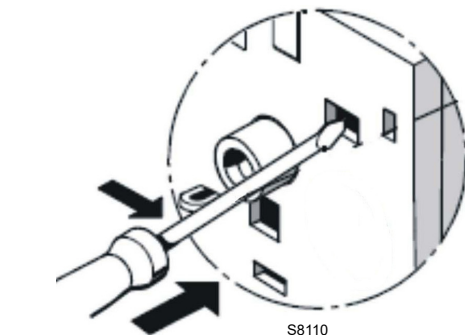

Fig. 28
- To test the thermal relay, insert a screwdriver in the window **"TEST"** (Fig. 28) and move it in the sense of the arrow (towards right).
- **Contact test NC (95-96) and NO (97-98)(Fig. 28)**